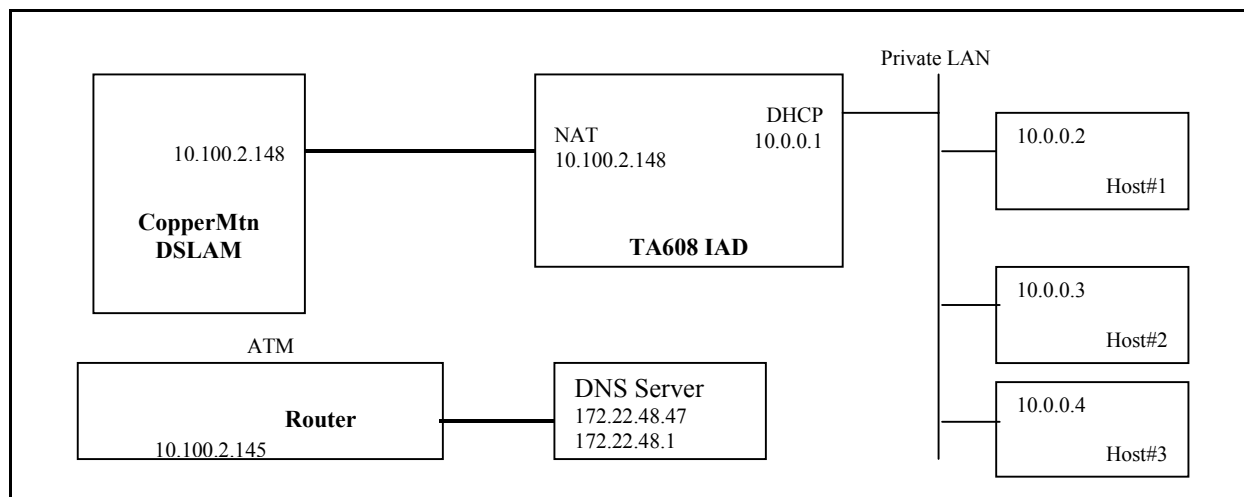

Figure 21. Routing with Copper Mountain
The Total Access 600 allows for complete integration of voice and data delivery from one compact platform. The CopperMountain DSLAM uses Frame Relay instead of ATM as their Layer 2 protocol. Once you have completed the Layer 1 configuration from the previous examples, you must configure the Layer 2 protocol. Refer to Figure 21 on page 198 as you complete the steps below.
4.	On the IP MAP menu, set up the following: Set ACTIVE to YES W/BRIDGE ENCAPSULATION . Set ADDRESS MODE to either USER SPECIFIED or DHCP CLIENT . If DHCP CLIENT is selected, the link addresses will be learned through DHCP (skip to Step 5). Set FAR-END IP ADDRESS to the next hop router on the ATM interface connected to the Copper Mountain for this DSL line (10.100.2.145 in Figure 21). Set IP NETMASK appropriately for this interface. Set LOCAL IP ADDRESS to the Copper Mountain IP address for this line (10.100.2.148 in Figure 21).
9.	<p>On the GLOBAL menu, set up the following:</p> <p>Select IP.</p> <p>Set MODE to ON.</p> <p>Select DHCP SERVER.</p> <p>Set DHCP MODE to ON.</p> <p>From DOMAIN NAMES, set up the following:</p> <p>Set PRIMARY DNS appropriately (172.22.48.47 in Figure 21).</p> <p>Set SECONDARY DNS appropriately (172.22.48.1 in Figure 21).</p> <p>Select BRIDGE.</p> <p>Set MODE to OFF.</p>
10.	<p>Arrow back to the ETHERNET menu, and set up the following:</p> <p>Select IP.</p> <p>Set IP ADDRESS appropriately for your LAN (10.0.0.1 in Figure 21).</p> <p>Set SUBNET MASK appropriately.</p> <p>Set DEFAULT GATEWAY to the ATM router connected to the Copper Mountain (10.100.2.145 in Figure 21).</p>